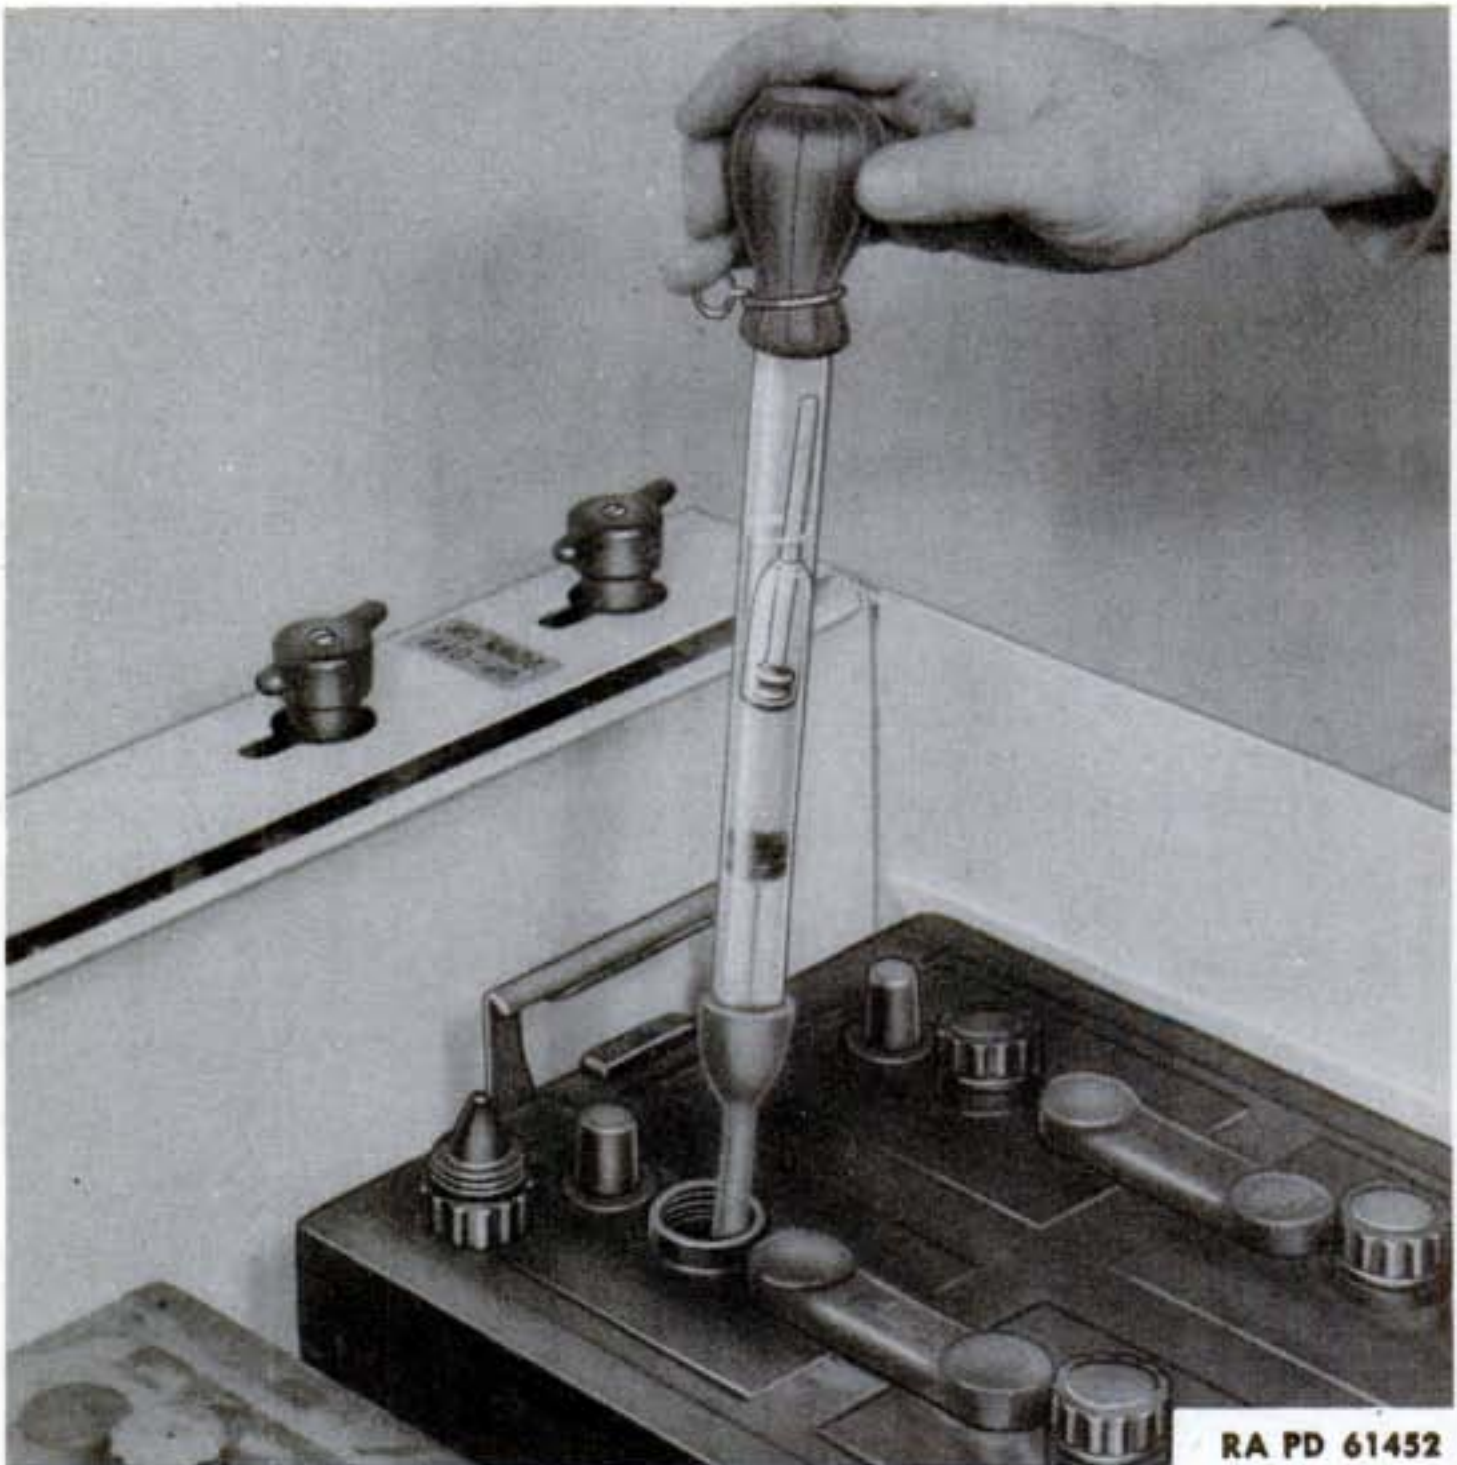

Figure 150—Taking Hydrometer Reading
b. Battery Maintenance. Batteries must be inspected at the 50-hour, or weekly, and at the 100-hour preventive maintenance service. This includes taking a hydrometer reading of each cell to determine the state of charge (fig. 150), adding water to maintain the correct level of the electrolyte, inspecting battery cable terminals,